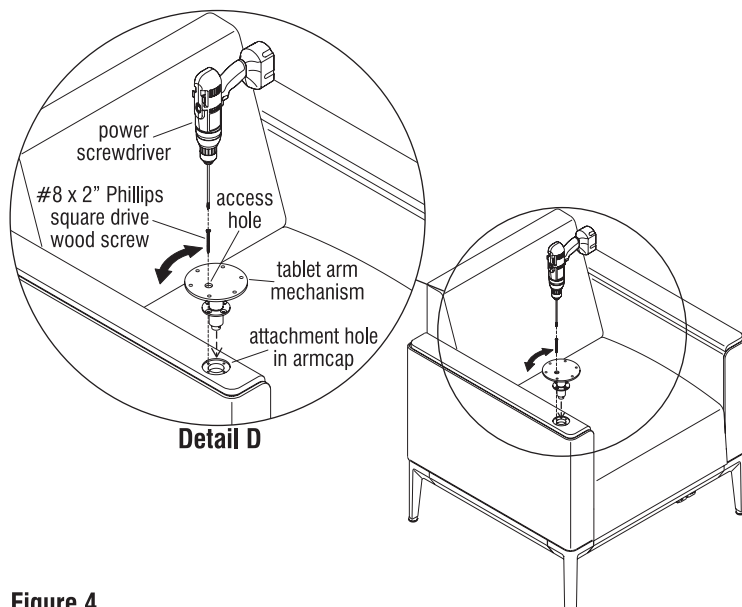

Figure 4
3. Locate the replacement tablet arm mechanism and insert it into the attachment hole in the arm or armcap. Make sure to align the four mounting holes of the mechanism with the four holes in the arm or armcap and press it into place (Figure 4).
4. Next, rotate the tablet arm mechanism until the access hole is aligned with one of the four mounting holes in the armcap. Insert a #8 x 2" Phillips square drive wood screw through the access hole and use a power screwdriver with a long reach Phillips or square drive bit through the access hole to attach the tablet arm mechanism to the arm or armcap. Rotate the tablet arm mechanism and align the access hole with the next open mounting hole and attach using a #8 x 2" Phillips square drive wood screw until all four mounting holes have been secured with screws (Figure 4).
4. Locate the tablet arm mechanism and insert it into the attachment hole in the armcap. Make sure to align the four mounting holes of the mechanism with the four holes in the arm cap and press it into place (Figure 4).
5. Next, rotate the tablet arm mechanism until the access hole is aligned with one of the four mounting holes in the arm cap. Insert a #8 x 2" Phillips square drive wood screw through the access hole and use a power screwdriver with a Phillips or square drive bit through the access hole to attach the tablet arm mechanism to the arm cap. Rotate the tablet arm mechanism and align the access hole with the next open mounting hole and attach using a #8 x 2" Phillips square drive wood screw until all four mounting holes have been secured with screws (Figure 4).